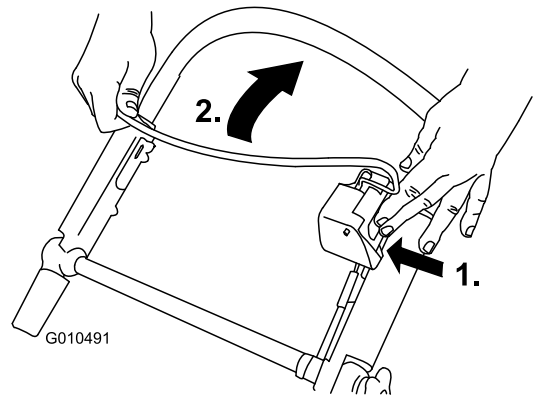

Figure 25
1. Push the blade-control button and pull the blade-control bar to the handle (Figure 25).